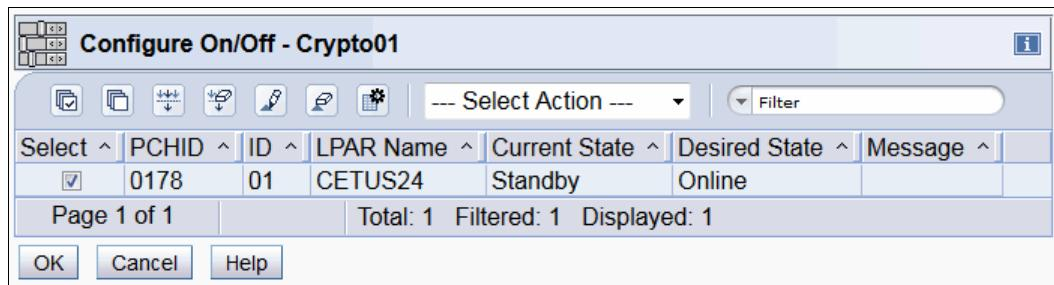

Figure 10-24 Configure On/Off (Standby to Online)
7. After confirming that your requested cryptographic coprocessor channel is set to the wanted state of Online, click **OK** (Figure 10-24).